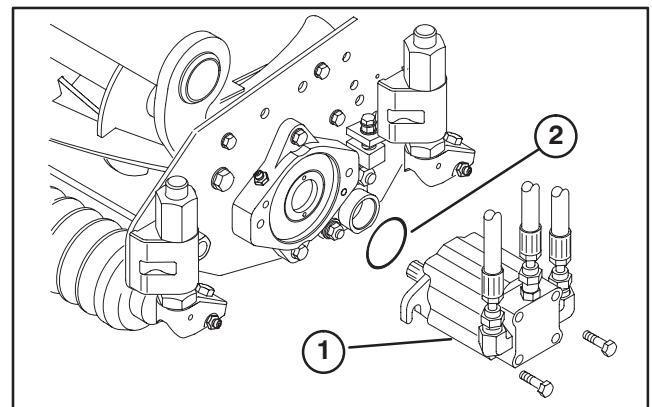

Figure 8
- 3. Cutting unit stabilizer ear (2)
14. Mount the motor to the drive end of the cutting unit and secure with two capscrews provided (Fig. 8).